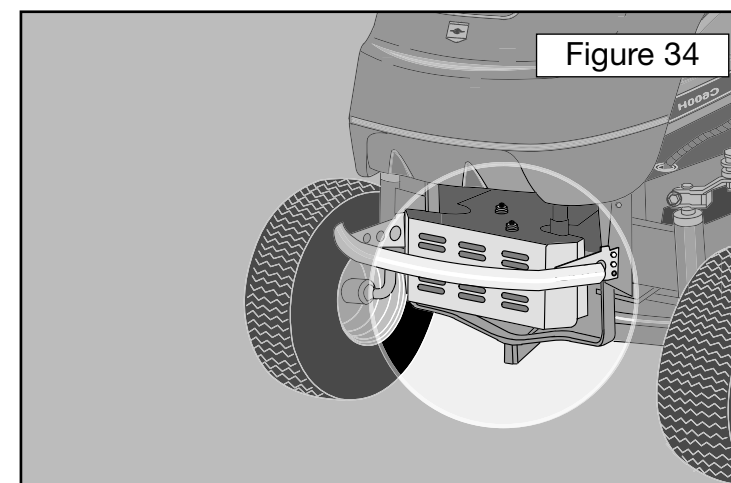

Figure 34
2. Taking care not to burn yourself on a hot exhaust, locate the Trunnion at the end of the Belt Tension Rod – lift the bonnet and look to the front (nearside) close to the exhaust (see Figure 34).